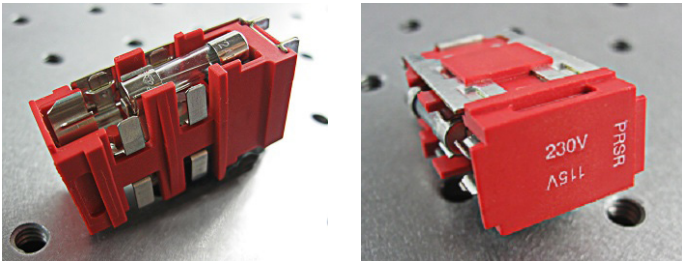

Figure 11. Fuse Installation and Voltage Selector
4. Insert the fuses as shown in **Figure 11**, with a short fuse at the contact end of the receptacle. Then, turn the drawer until the correct voltage label is at the top and replace it in the receptacle. Press firmly to make sure the drawer is completely seated. It should be flush with the receptacle.